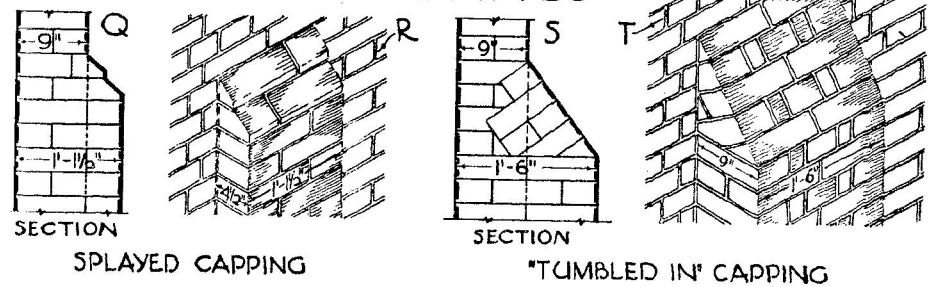

FIGURE 11
OFFSETS.—These are narrow horizontal surfaces which have been formed by reducing the thickness of walls. Fig. 10 shows 2 1/4-in. offsets. Wider offsets than these may be required to support floor joists, roof timbers, and the like. Walls of tall buildings are formed with offsets; thus a 50-ft. high wall may be 18-in. thick at the base, 9-in. thick at the top, with an intermediate thickness of 13 1/2-in., and the 4 1/2-in. wide ledges or shelves so formed are termed offsets. A broken vertical section through a portion of such a wall is shown at A, Fig. 11. The 4 1/2-in. offsets support horizontal wood members called wall plates which receive the ends of the floor joists (see p. 61). Only one 2 1/4-in. offset is necessary at U as the broken lines at v show that the wall conforms with E, Fig. 10.
The plan at B, Fig. 11, shows an alternative and cheaper method of supporting wall plates than at A. In the latter the increased thickness of the wall at the base to form the offset is continuous for the full length of the wall, whereas at B the wall plate rests upon small piers which are usually not more than 3-ft. apart. Two methods of forming these piers are shown at C and D, the former being the stronger as it is bonded into the main wall and the latter is not. The foundation for pier D is strengthened if the site concrete is formed to occupy the space at W.
CORBELS.—These are similar to offsets except that the ledges are formed by oversailing or projecting courses (see Fig. 11). They are constructed to support floor beams, lintels, etc. As a load carried by a corbel tends to overturn the wall, certain precautions are taken to ensure a stable structure; these are: (1) the maximum projection of the corbel must not exceed the thickness of the wall, (2) each corbel course must not project more than 2 1/4-in., (3) headers must be used as they are more adequately tailed into the wall than stretchers, and (4) only sound bricks and workmanship should be employed. The corbels